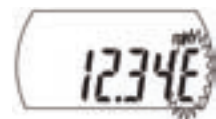

Fig. 3
2. The letter "E" appearing temporarily at the end of the display while the spindle is moving is normal. However, if it is displayed continuously when the spindle is at rest then repair is necessary. **(Fig. 3)**